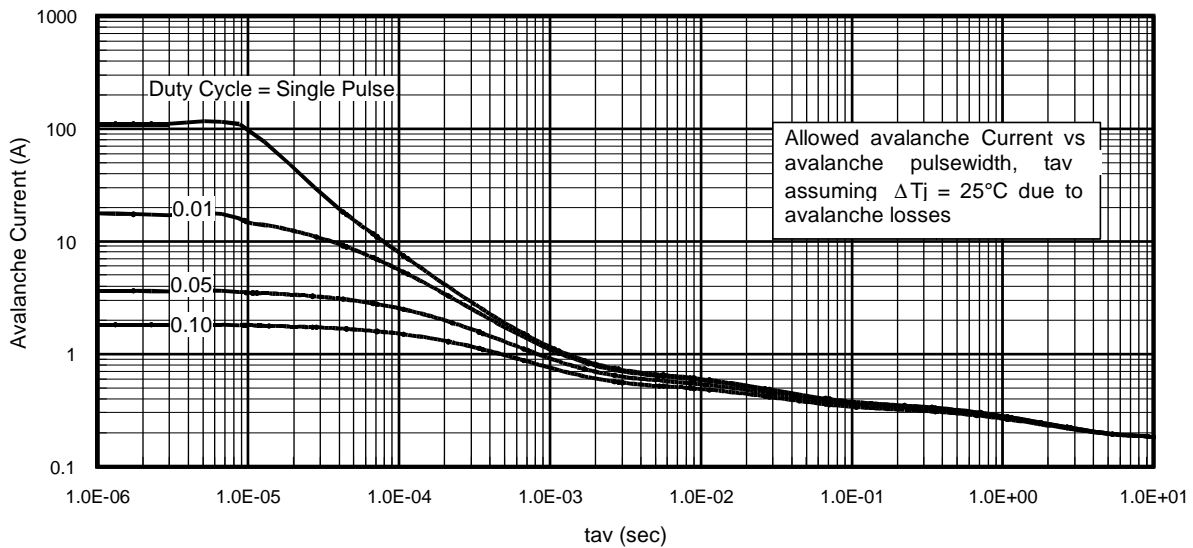

Fig 14. Typical Avalanche Current Vs. Pulsewidth
Notes on Repetitive Avalanche Curves , Figures 14, 15:
7. ΔT = Allowable rise in junction temperature, not to exceed T_{jmax} (assumed as 25°C in Figure 14, 15).
- ① Repetitive rating; pulse width limited by max. junction temperature.
- ② Starting $T_J = 25^\circ\text{C}$, $L = 1.5\text{mH}$, $R_G = 25\Omega$, $I_{AS} = 13\text{A}$.
- ③ Pulse width $\leq 400\mu\text{s}$; duty cycle $\leq 2\%$.
- ④ R_{θ} is measured at T_J of approximately 90°C .
- ⑤ Limited by T_{jmax} . See Figs. 14, 15, 17a, 17b for repetitive avalanche information.